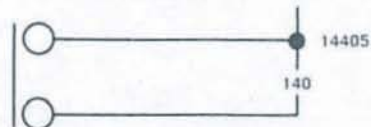

Fig. 3 — Harness Number
- Harness number is shown in Figure 3. The 5 or 6 digit number near the wire indicates the wire harness basic part number.